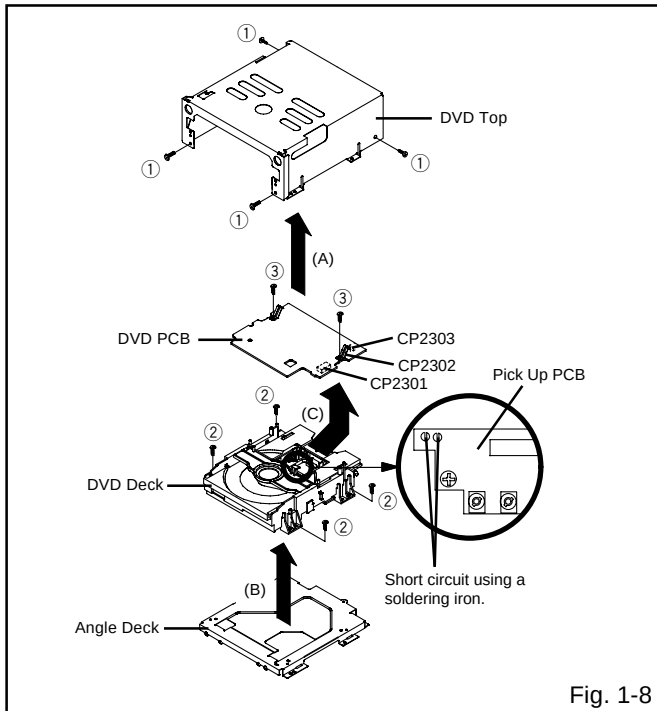

Fig. 1-8
1-8: DVD PCB/DVD DECK (Refer to Fig. 1-8)
1. Short circuit the position shown in **Fig. 1-8** using a soldering iron. If you remove the DVD Deck with no soldering, the Laser may be damaged.
2. Remove the 4 screws ①.
3. Remove the DVD Top in the direction of arrow (A).
4. Remove the 4 screws ②.
5. Remove the DVD Deck in the direction of arrow (B).